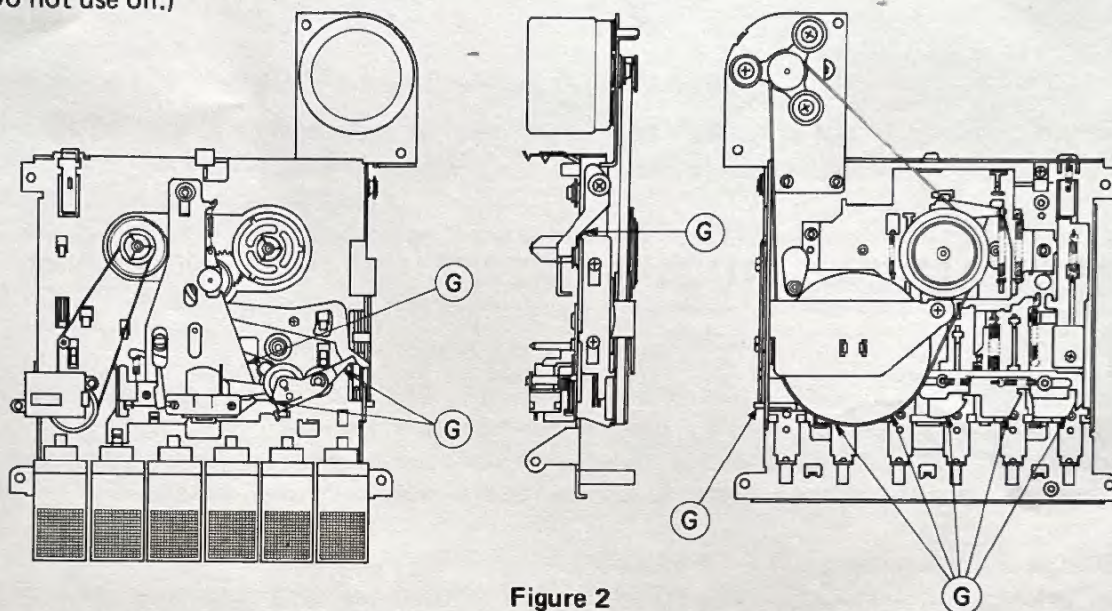

Figure 2
Grease may be applied to the sliding surfaces indicated with (G) as shown in Figure 2. (Do not use oil.)